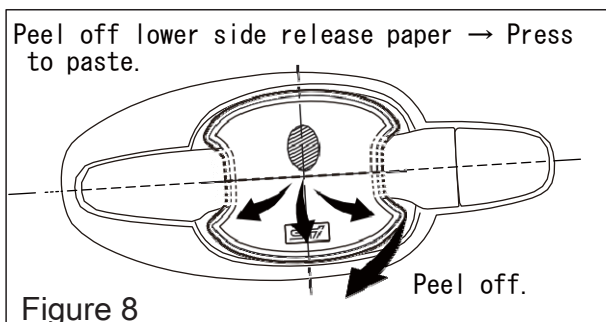

Figure 8
- 3) Perform the similar procedure with the lower side release paper. (Figure 8)